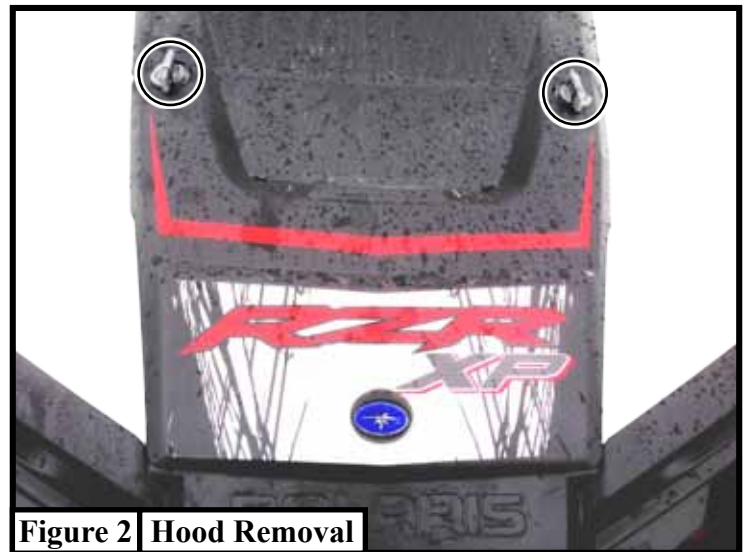

Figure 2 Hood Removal
1. Remove the hood. Shown in **Figure 2**.